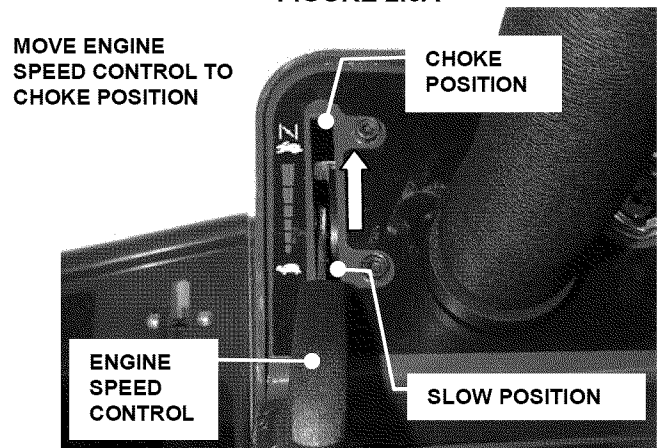

FIGURE 2.6B
5. Move engine speed control to the choke position to start a cold engine. See Figure 2.6B.